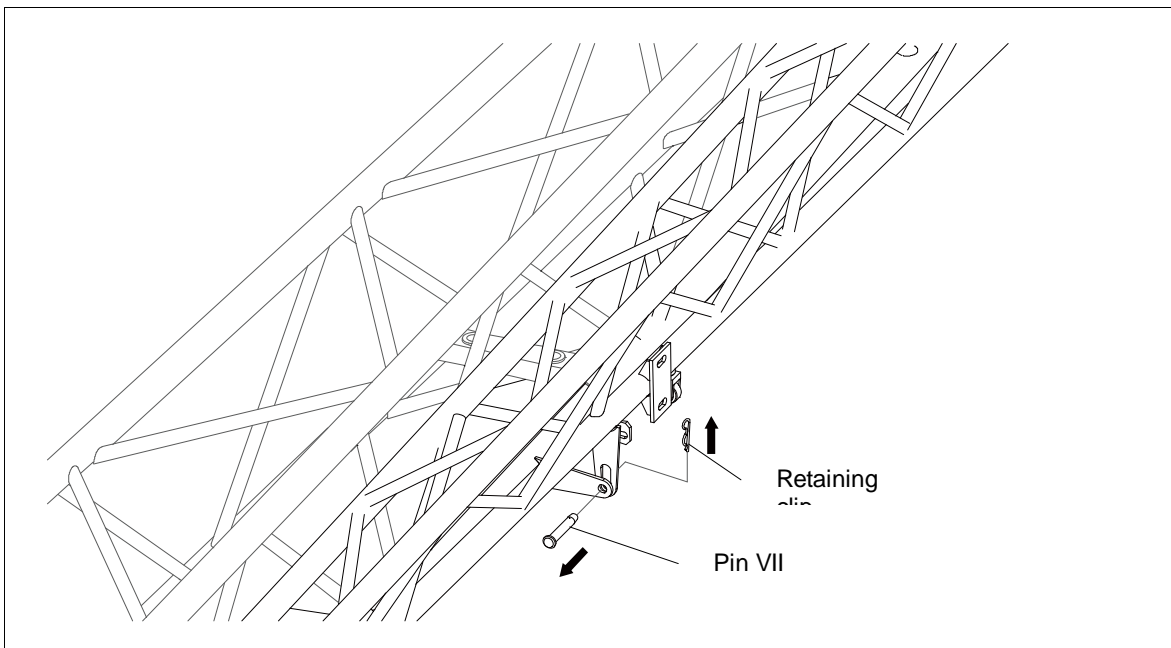

Figure 7-42 Pin VII removal
- O. Use the jib section 2. Remove the Pin VII connecting the jib sections 1 and 2 and the retaining clip. Refer to Figure 7-42.